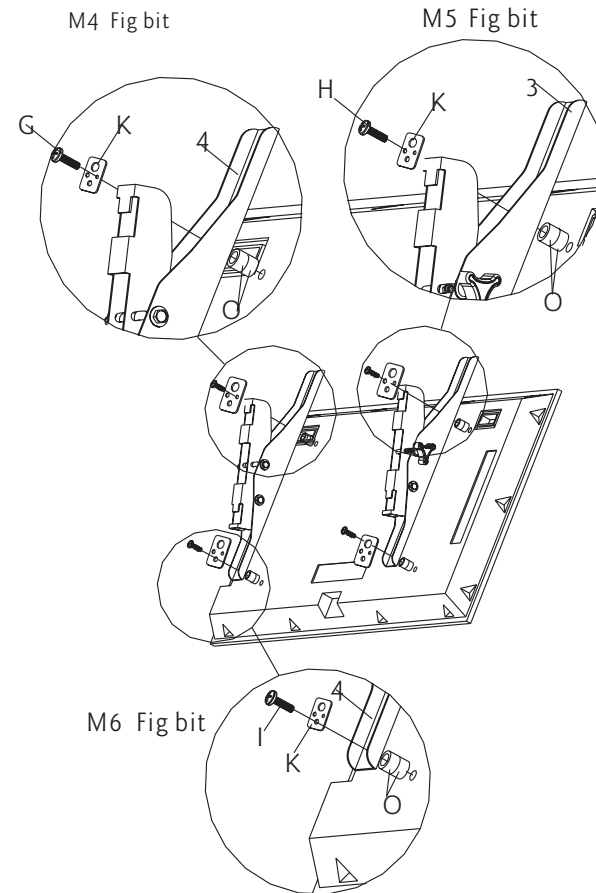

Fig 1c
3. For display with protruding HDTV tune or deeply curved backs (Fig b), two 9/16" spacers (O) should be used. Stack two spacers and then install them between display and the bracket. As shown in Fig 1c.